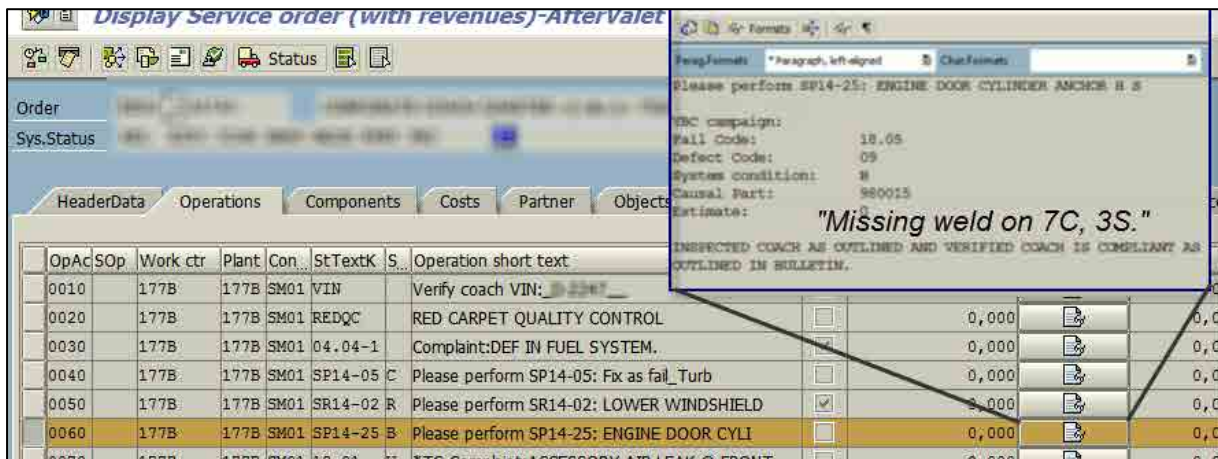

Figure 2
- 3) For each seat with a missing weld, write down inspection results and seat position in SAP service order line text. (fig. 2)